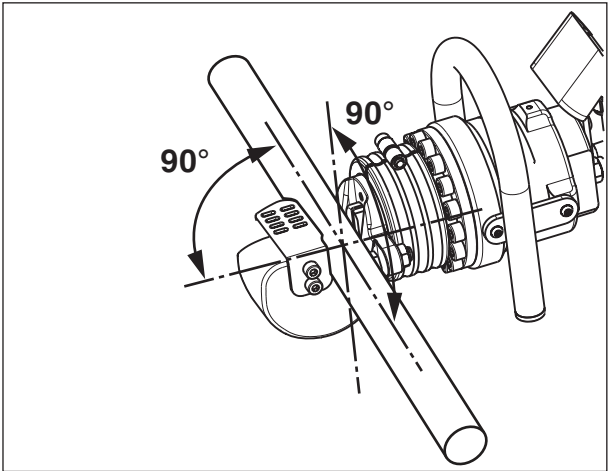

Figure 7, Positioning Material in the Cutting Head
Position the material to be cut between the cutter blades, so that it is perpendicular to the piston axis, as shown in Figure 7. This will provide the best quality cut while placing the least amount of load on the cutter.
3. Place the material to be cut between the fixed and moving blades. Be sure that it is perpendicular to the piston axis, as shown in Figure 7. Refer to instructions in Section 8.5 for additional information.